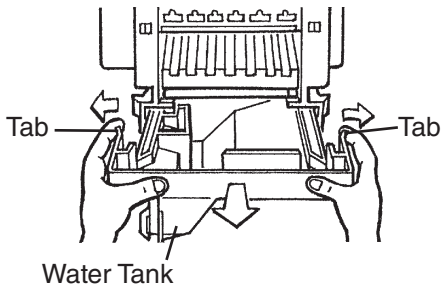

**Fig. 38**
- 2) Remove the slope from the ice storage bin by carefully bending it in the center and releasing it from the 2 slope shafts. See Fig. 38.